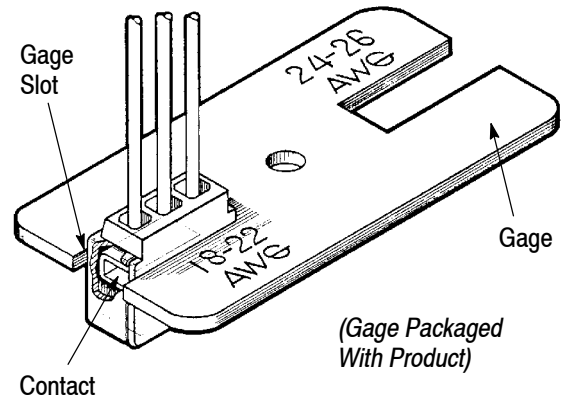

Figure 5
3. Check each connector by placing connector in gage so contact is aligned with gage slot as shown in Figure 5.